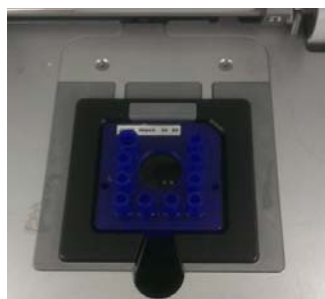

Figure 6. Chip in the LabChip GX Touch/GXII Touch instrument
- 4 Insert the chip into the LabChip GX Touch/GXII Touch instrument (Figure 6) and close the chip door securely.